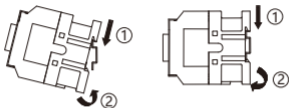
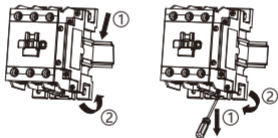

Fig.1 Installation and disassemble method of CJX2s/CJX2i-09~38
Fig.2 Installation and disassemble method of CJX2s/CJX2i-40~95
- Contactor has two mounting methods: Screw mounting and rail mounting: CJX2s/CJX2i-09~38 must be installed with 35mm standard rail clamp. CJX2s/CJX2i-40~95 can be installed with 35mm or 75mm standard rail clamp. Before mounting, please check rated voltage of coils, frequency should be same with control power. Do not use contactor when it is damaged or not fixed. Installation and disassemble method, see Fig. 1 and Fig.2